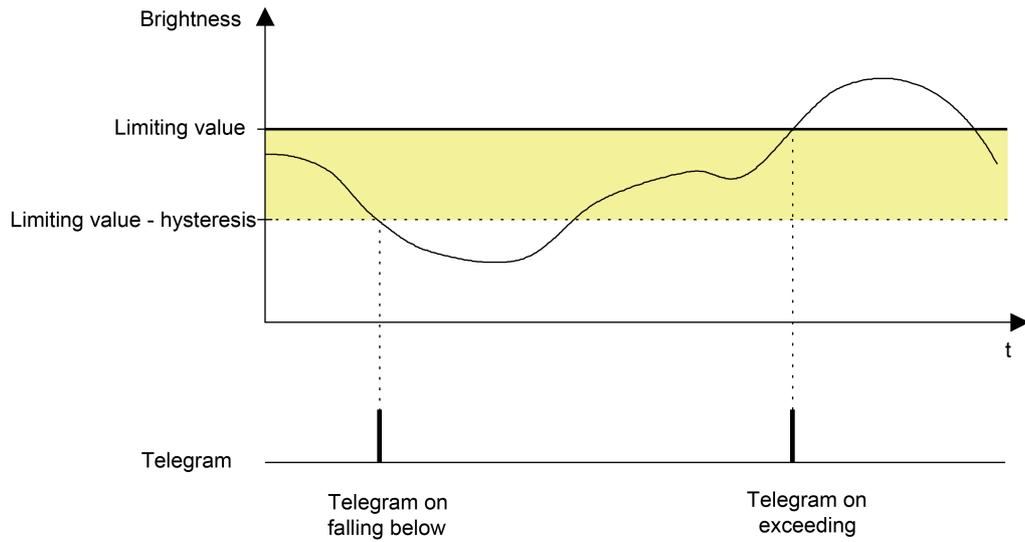

Figure 30: Example 1 of the limiting value definition
1. Brightness limiting value = Upper threshold (figure 30)